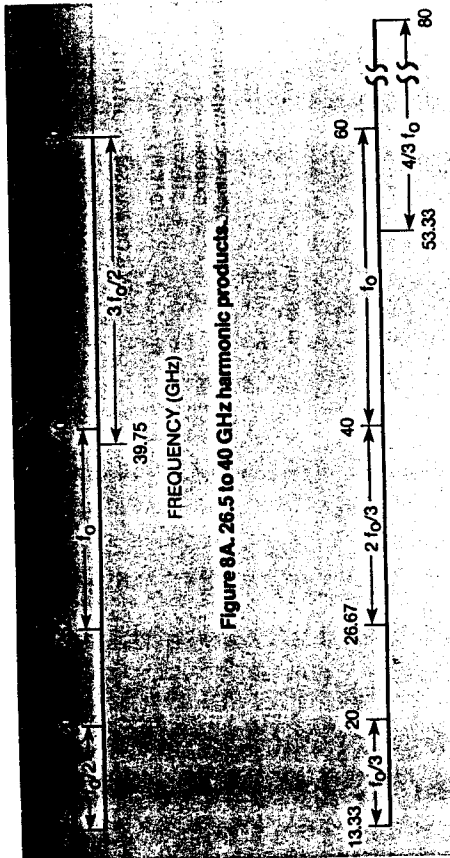
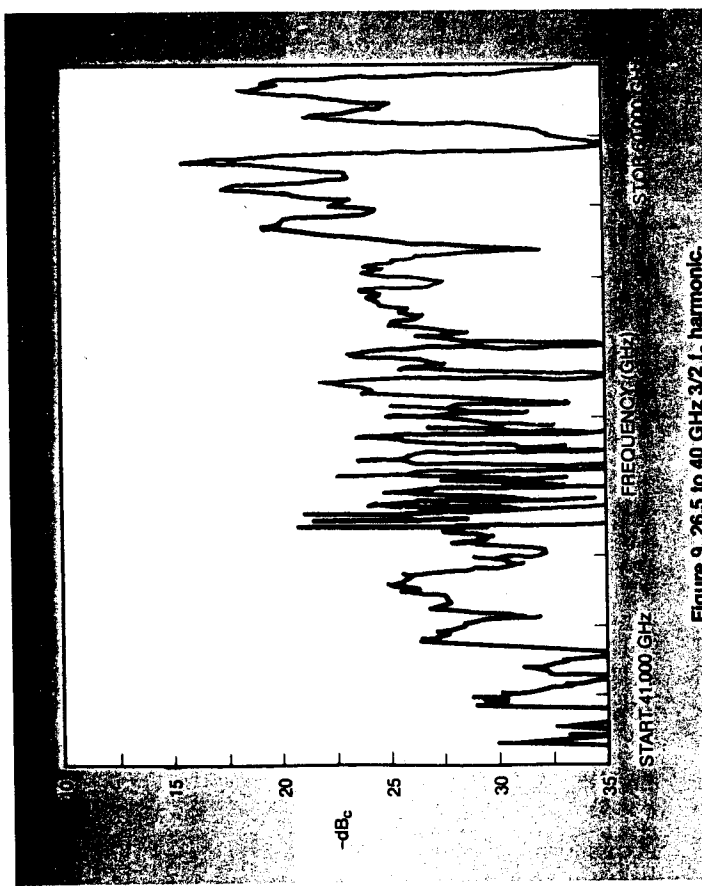

Figure 8A. 26.5 to 40 GHz harmonic products.
Figure 9. 26.5 to 40 GHz 3/2  $f_0$  harmonic.
**26.5 to 40 GHz:** This band is generated on the WJ-1204-42 by doubling 13.25 to 20 GHz. The harmonic products from this doubler are plotted in Figure 8A. The output will not contain any 13.25 to 20-GHz feedthrough because this signal is cut off by the waveguide. However, the  $3/2$  harmonic is of interest as it falls in band at 39.75 GHz, and various modes may be present out of band. Figure 9 shows the  $3/2$  harmonic to be at least 20 dB below  $f_0$ .